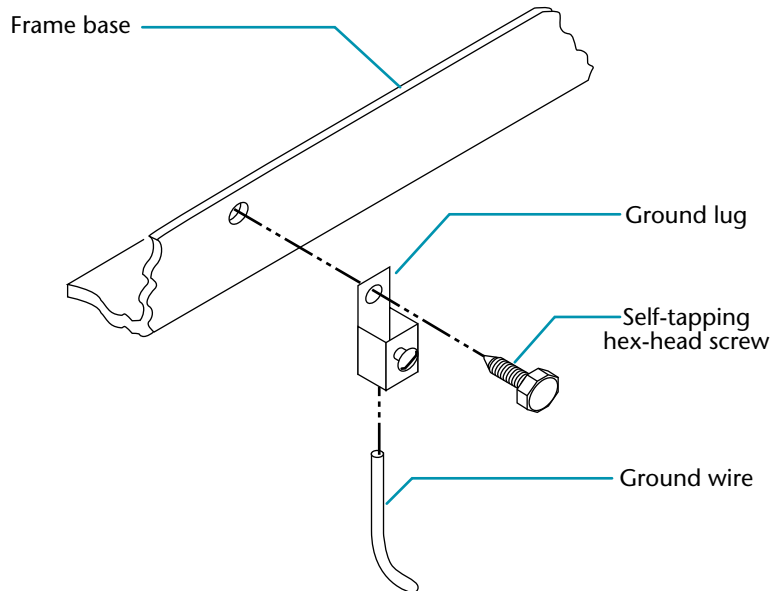

Figure 4-16. Grounding the antenna
1. Insert one end of the ground wire through the ground lug (see figure 4-16).
3. Install the ground lug onto the NPM frame base using the self-tapping hex-head screw as shown in figure 4-16.